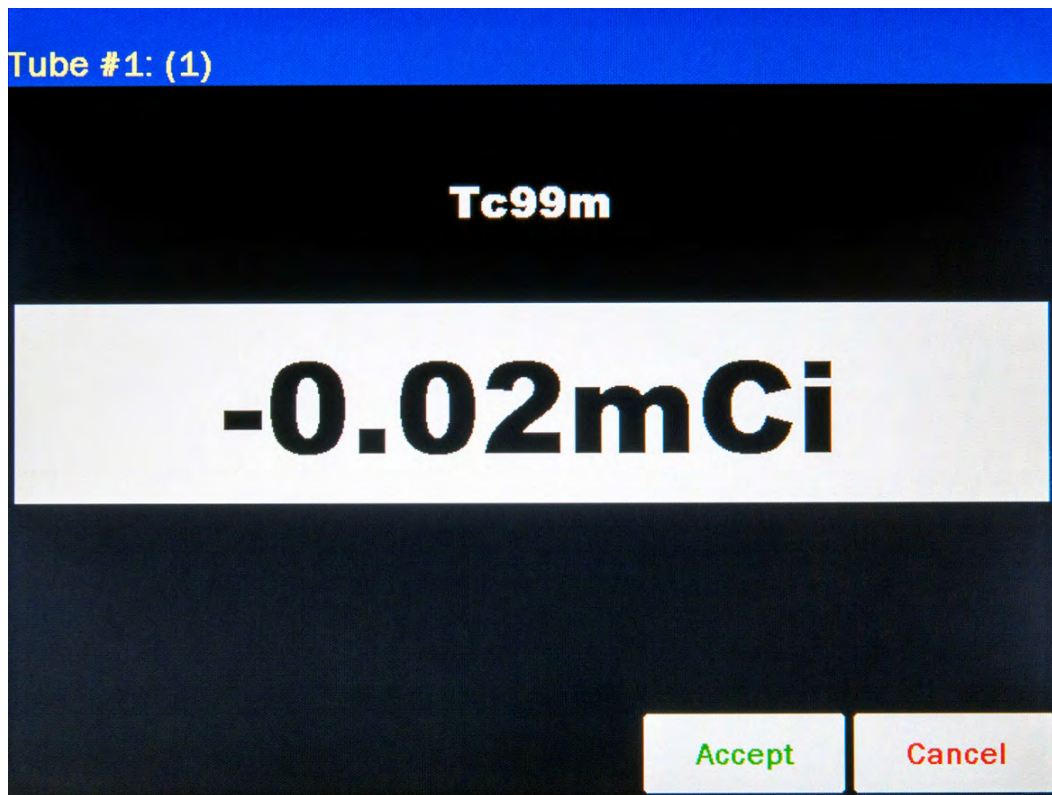

Figure 6-26 Lineator Test Measurement Screen
Remove the Dipper from the Chamber (leaving the Liner in place) and place the Tc99m test source into Tube 1 and then place Tube 1 into the Chamber. Touch the **Tube #1 (1):** field box to perform a measurement. A measurement window will appear as shown in Figure 6-26 Lineator Test Measurement Screen.